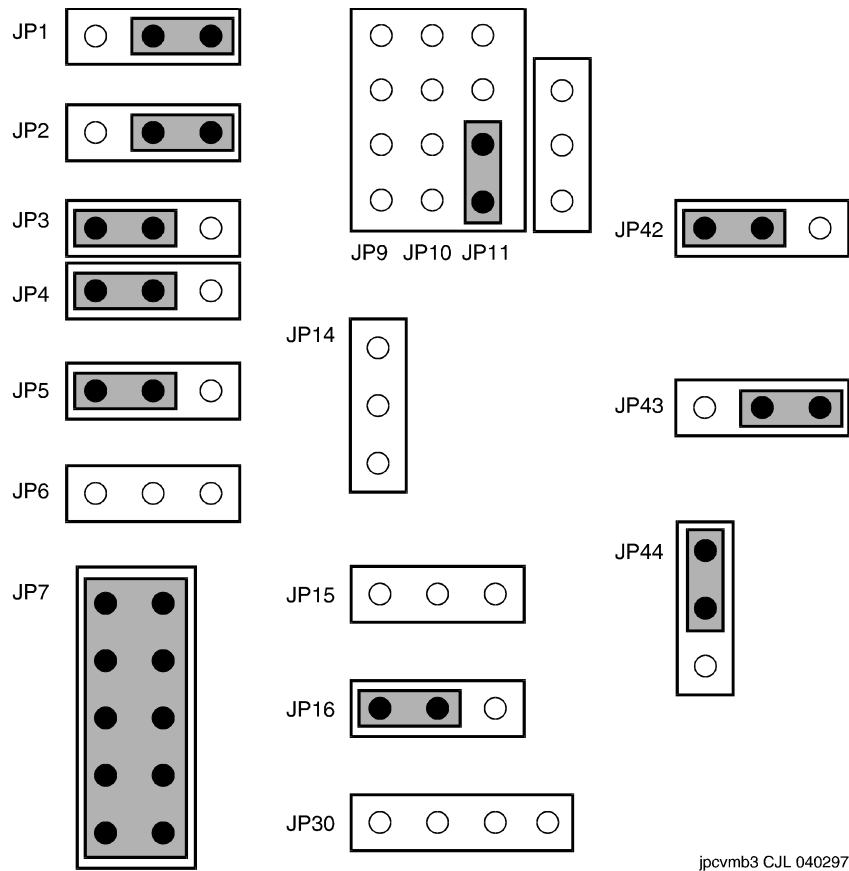

Figure 7-10. Motherboard Jumper Settings
1. Verify the jumper settings on the motherboard (Figure 7-10).